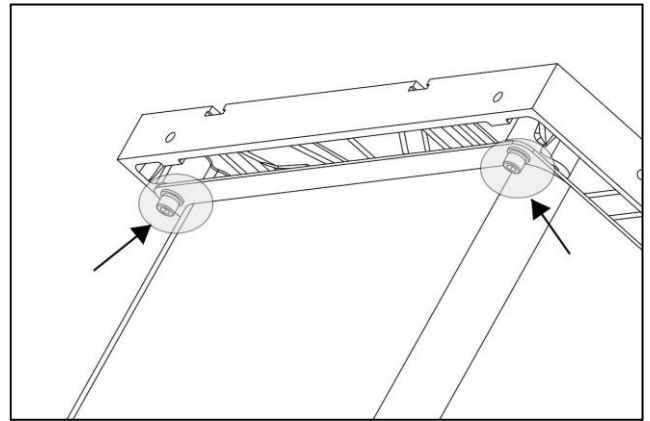

Fig. 22
- c. Connect the pipe (1.5") provided by us to the dust outlet as **Fig. 22** shows..
2. If an adjustment is necessary, loosen the screws identified in **Fig. 22** which mount the table to the cabinet. Make the needed adjustment until both measurements are equal or less than 0.2 mm. and re-tighten the screws.